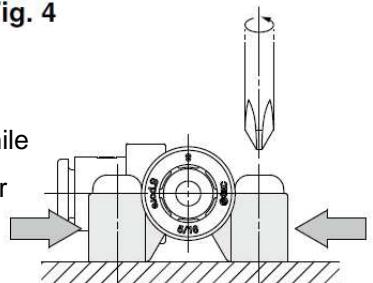

Fig. 5
- (3) When mounting the product with the standard bracket, tighten the screw while holding both sides of the bracket. If the fit of the bracket is loose, the ejector may move after tightening the screws. (Fig. 5)